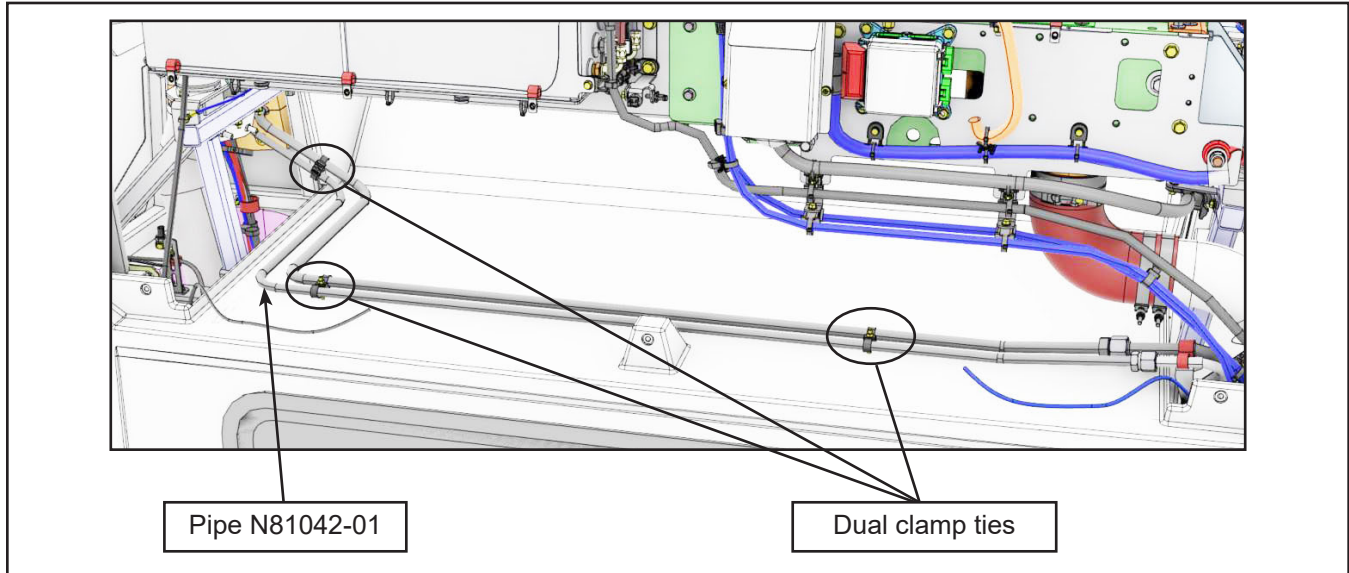

Figure 12 - Remove 3 Dual Clamp Ties
- a. In the radiator compartment, cut the 3 dual clamp ties to free the pipe N81042-01 (Figure 12).
- e. Secure the new pipe N81042-01 in the radiator compartment with 3 new dual clamp ties N37749 (refer to Figure 12).